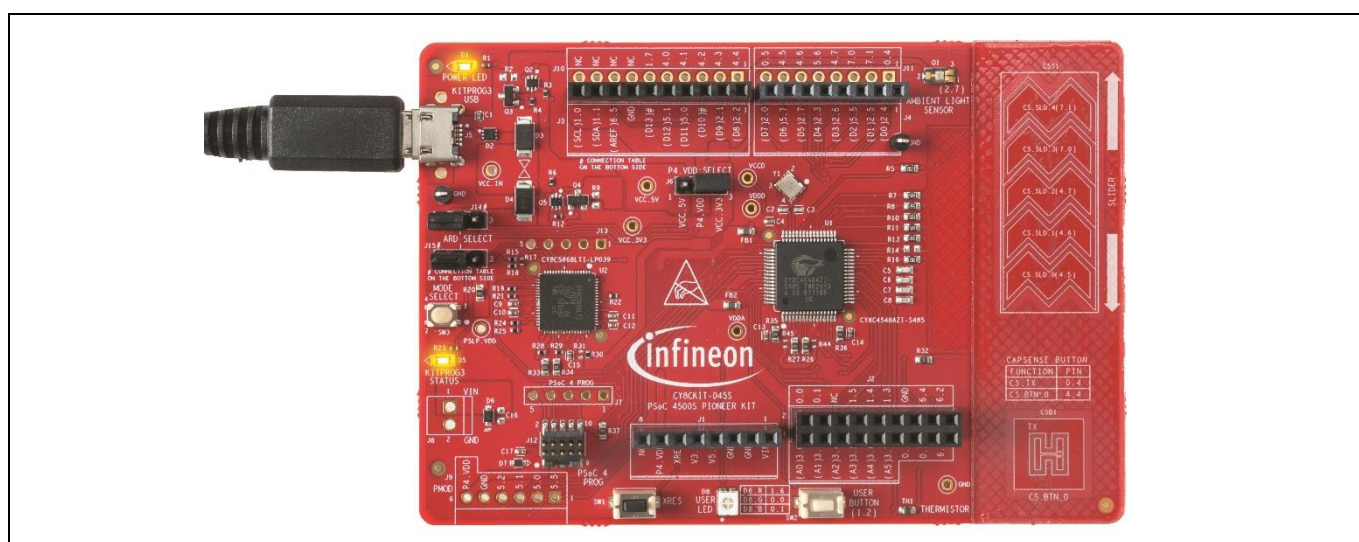

Figure 7 Connecting the CY8CKIT-045S PSoC 4500S Pioneer Kit to a Computer
1. Connect the PSoC 4500S pioneer board to the computer through the connector (J5), as shown in Figure 7. If you are plugging in the PSoC 4500S Pioneer Kit to your PC for the first time, the kit drivers will get installed automatically. KitProg3 can operate either in CMSIS-DAP HID mode or CMSIS-DAP Bulk mode (default). Programming is faster with the CMSIS-DAP Bulk mode. The status LED (Yellow) is always ON in CMSIS-DAP Bulk mode and is ramping (increasing and decreasing brightness) at 1 Hz rate in CMSIS-DAP HID mode. see the KitProg3 User Guide for details on the KitProg3 status and troubleshooting instructions.